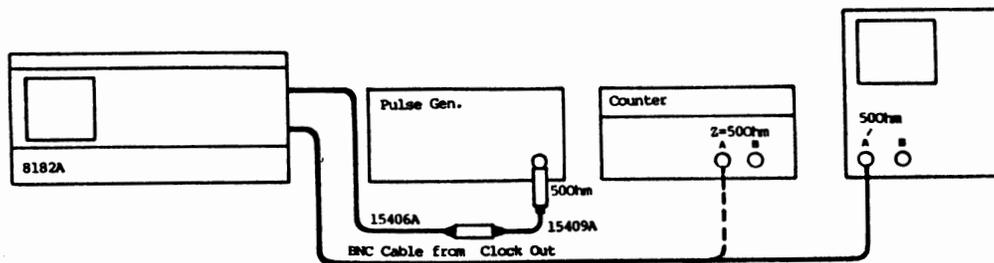

Figure 4-5 Clock Width Test Setup
5. Connect equipment as shown in figure 4-5 (Clock Out to oscilloscope) and measure clock output pulse width at 50% of amplitude. Width min 8.5 ns max. 11.5 ns.